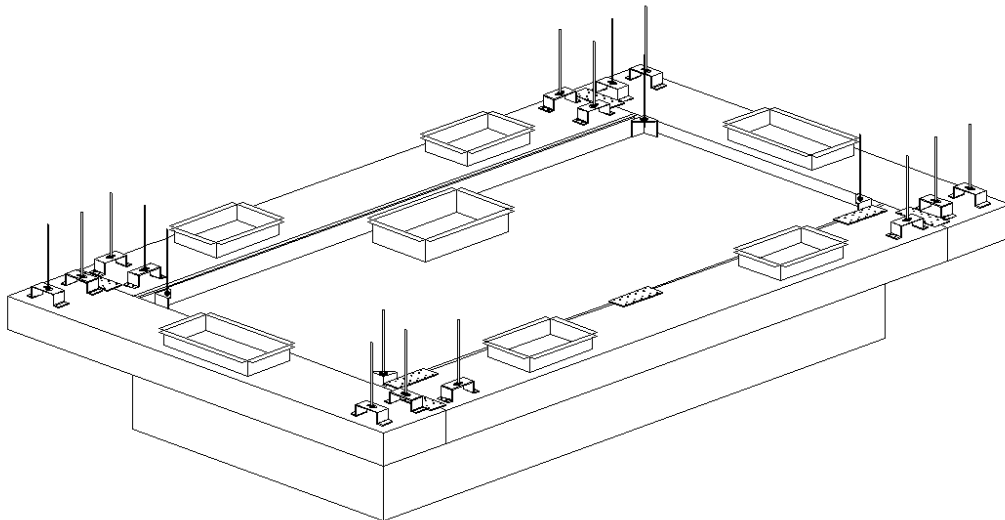

Figure 12
11. Caulk the seams between the hood(s) and each PSP assembly, as well as between adjacent PSP assemblies (if applicable) after the hood(s) and hood accessories have been installed. An isometric view of the hood assembly for a model PSPFBSS is shown in **Figure 12.**